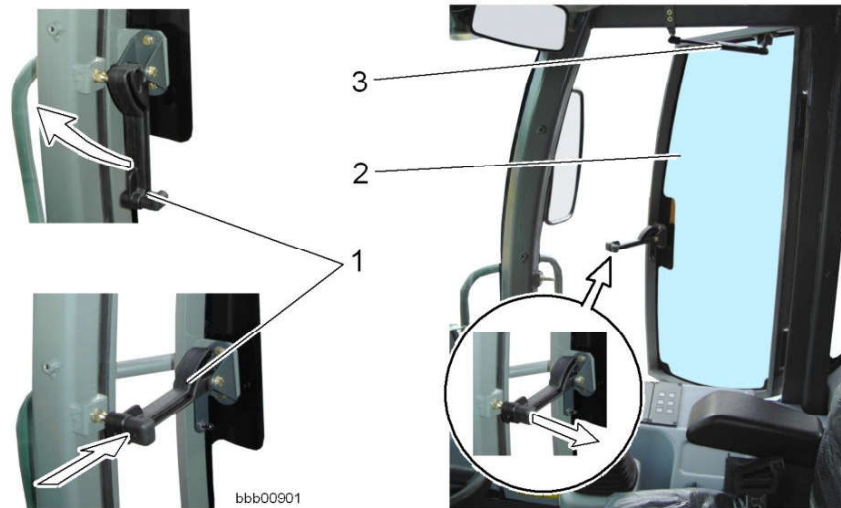

Fig. 67: Opening and closing the hinged window
- Guide the lever **1** (see: fig. 67, page 71) over the retainer and push the hinged window down until it is closed.